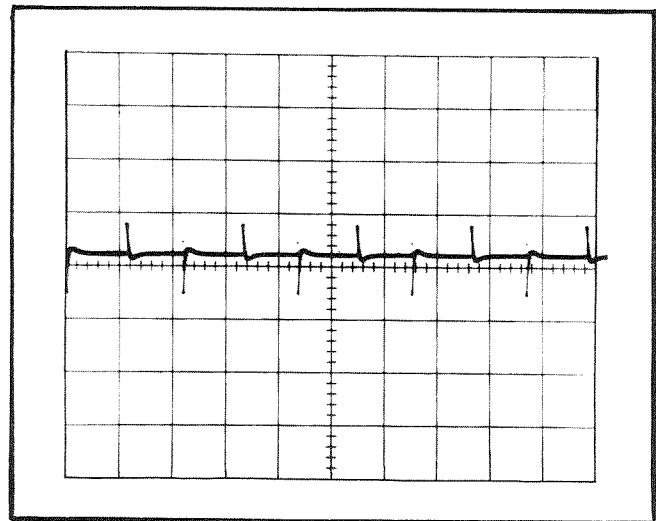

Fig. 5-5. Typical display obtained when Input Attenuators are adjusted for optimum differential balance.
justed, the waveform should appear as shown in Fig. 5-5. Disregard any spikes on the waveform.
- g. ADJUST—R108E, R109E and R110E (see Fig. 5-1) for minimum amplitude as shown in Fig. 5-5, using Table 5-4 as a guide.